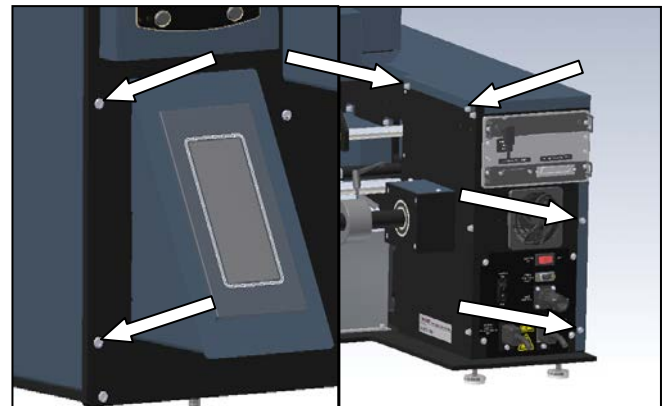

Figure 3-70. Frame Cover Screws
2. Locate transformer that requires replacement (Figure 3-70).
3. If you are replacing the Seal Wire Transformer Remove the six screws holding the Frame Cover, set screws and Frame Cover aside (Figure 3-70).